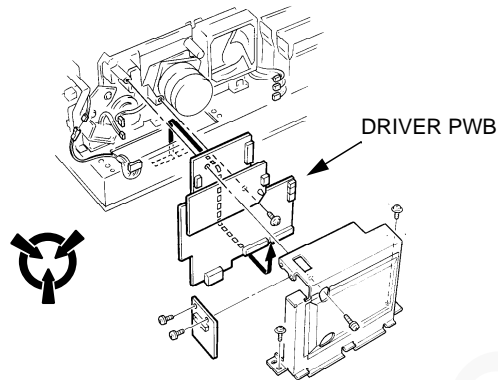

Figure 1. Driver PWB
5. Remove the three screws retaining the driver PWB shield to the chassis (figure 1).